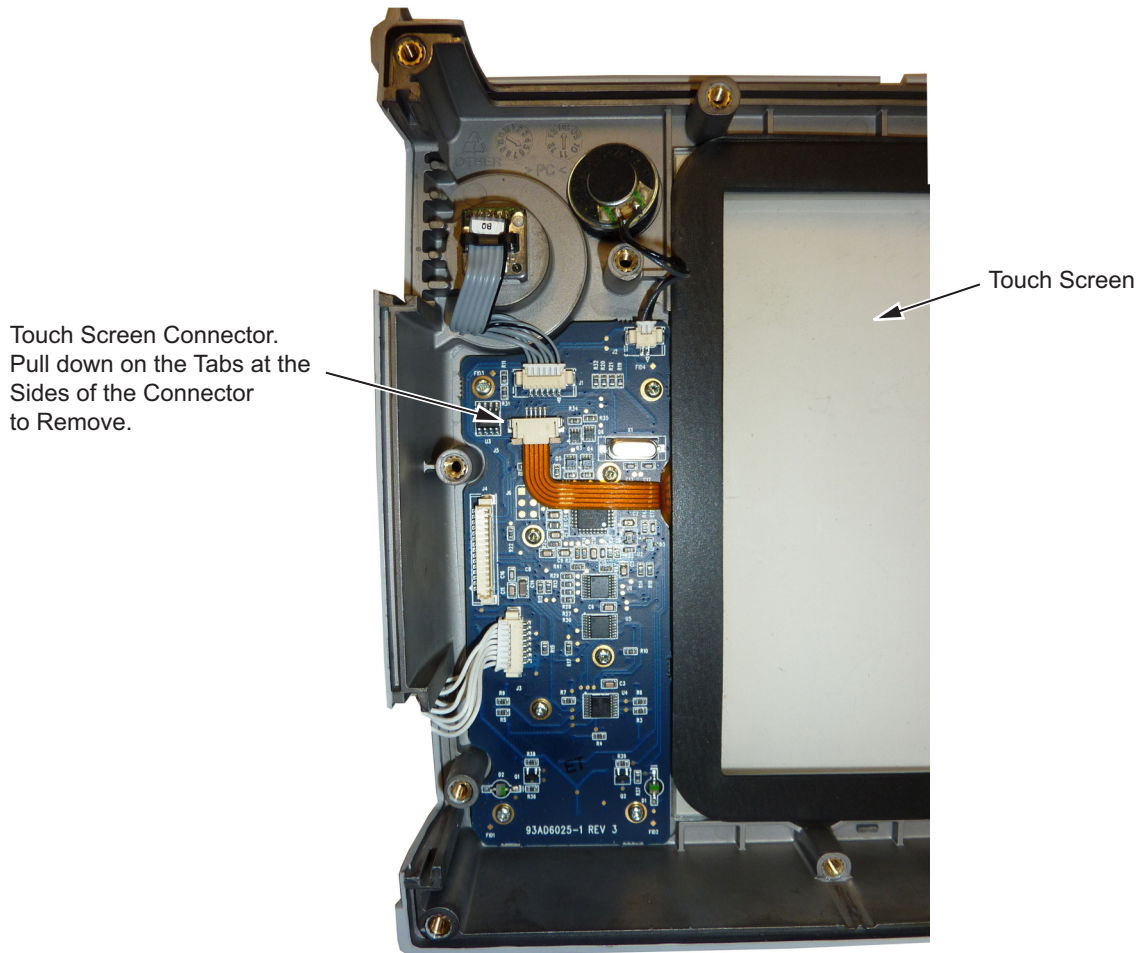

Figure 6-15. Replacing the Touch Screen
4. Remove the touch screen flex circuit connector from the Keypad PCB by pulling the tabs on each side of the connector away from the connector and in the direction of the flex circuit. Refer to Figure 6-15.